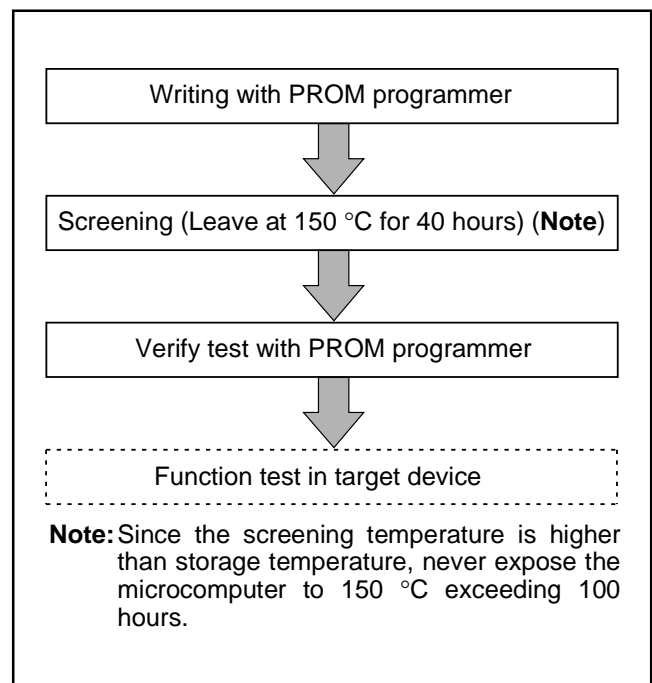

Fig. 51 Flow of writing and test of the product shipped in blank
Table 24 shows the product of built-in PROM version. Figure 51 shows the pin configurations of built-in PROM versions.
(2) Notes on handling
- ① A high-voltage is used for writing. Take care that overvoltage is not applied. Take care especially at turning on the power.
- ② For the One Time PROM version shipped in blank, Mitsubishi Electric corp. does not perform PROM writing test and screening in the assembly process and following processes. In order to improve reliability after writing, performing writing and test according to the flow shown in Figure 51 before using is recommended (Products shipped in blank: PROM contents is not written in factory when shipped).